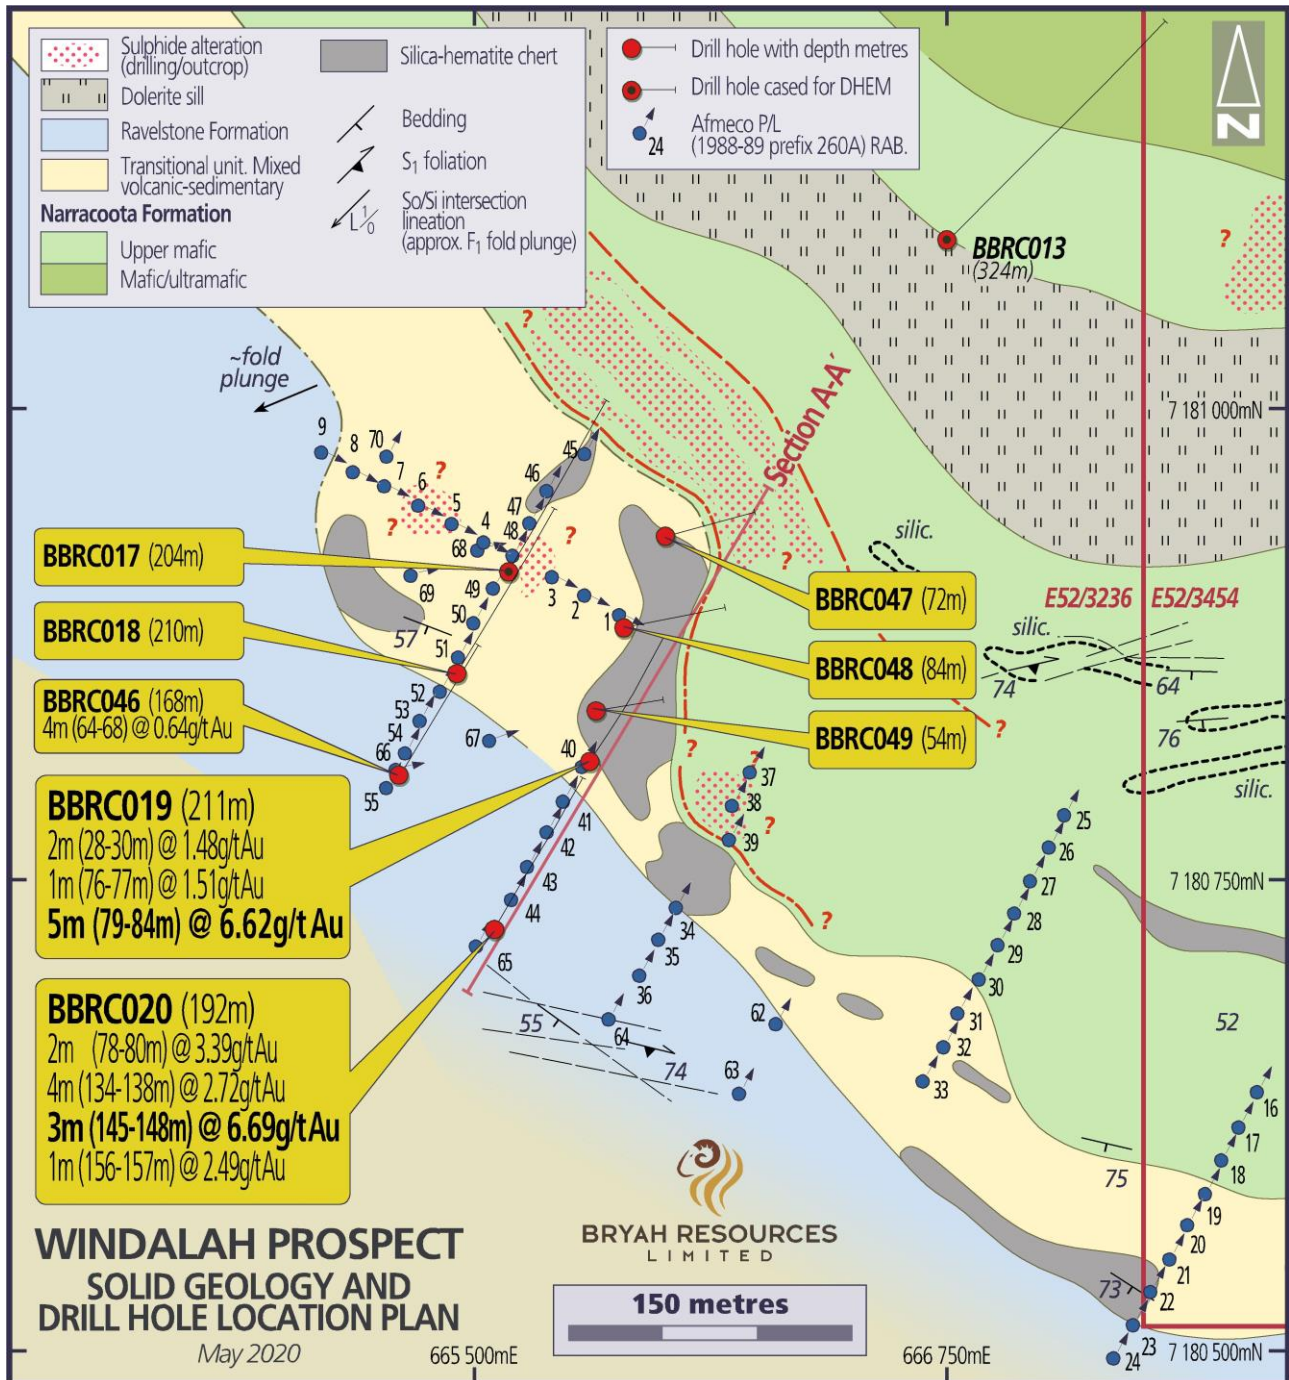
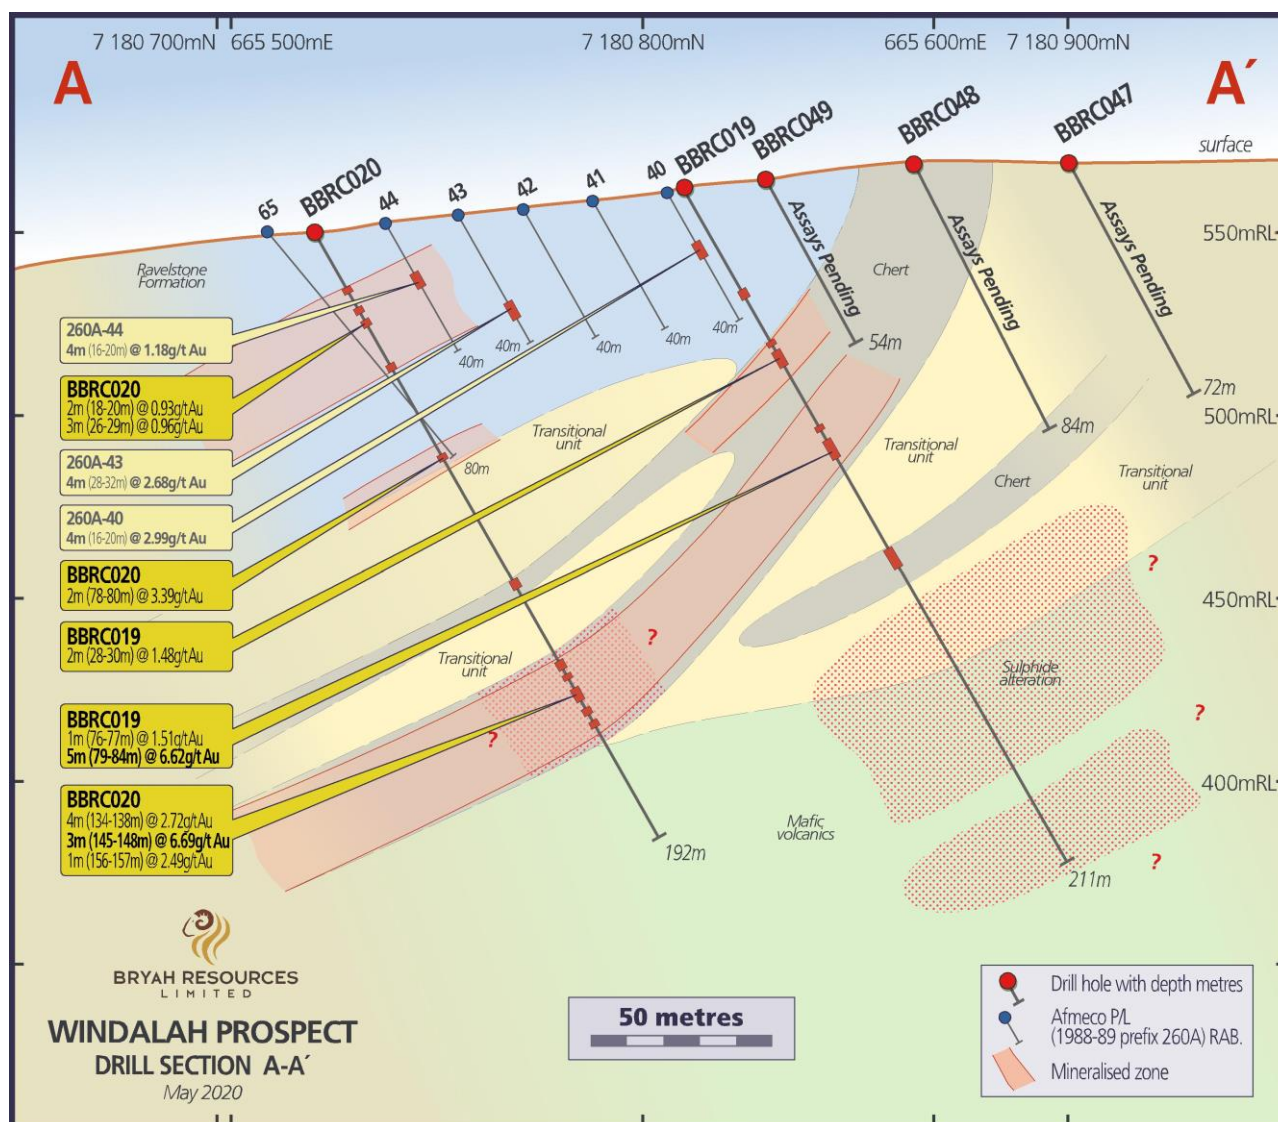

Figure 2 – Windalah Prospect Drill Hole Location Plan
Figure 3 - Windalah Prospect Drill Section A-A'
The drilling program of 210 metres consisted of 3 Reverse Circulation (RC) holes (BBRC047-BBRC049) drilled as shown in Plate 1, Figure 2 and Figure 3.
Company personnel have recently succeeded in clearing a blockage from the 50mm PVC casing in drill hole BBRC013, which could not be Down Hole Electromagnetic (“DHEM”) surveyed in early 2019 due to the blockage. See Figure 2 for the location of BBRC013.